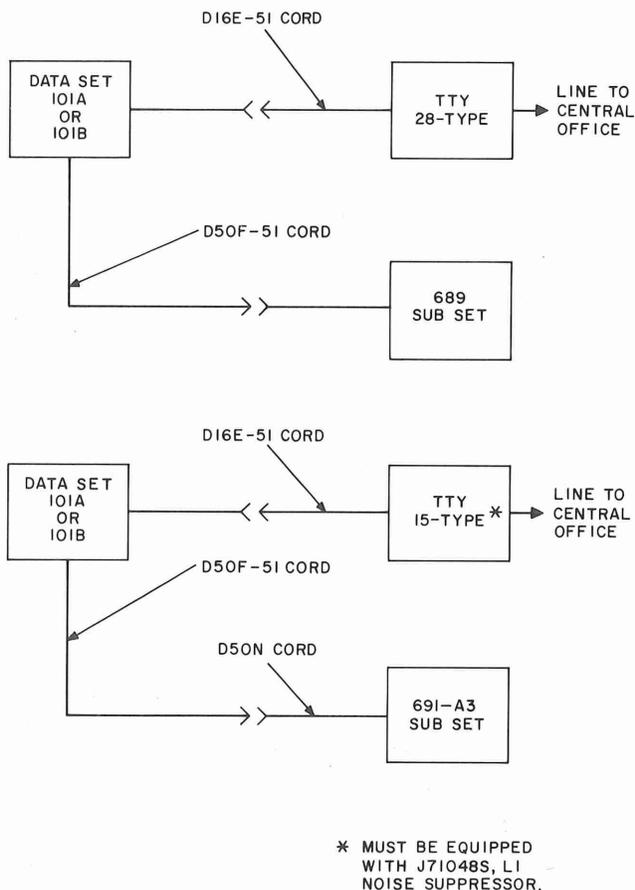

Fig. 4—Block Diagram Typical TWX Station
1.07 Fig. 4 is a block diagram of a typical TWX station.